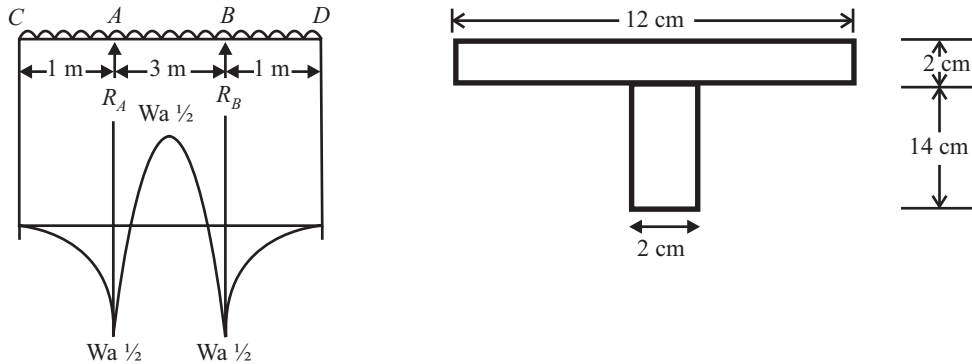

Fig 16.23
Q. 30: A T section with 14 cm overall depth having flange width of 12 cm as shown in fig 16.23. The beam rests on two supports. If allowable tensile and compressive stresses are 10KN/cm² & 6KN/cm². Calculate UDL covering the entire length of 5 m which can be safely carried by the beam.